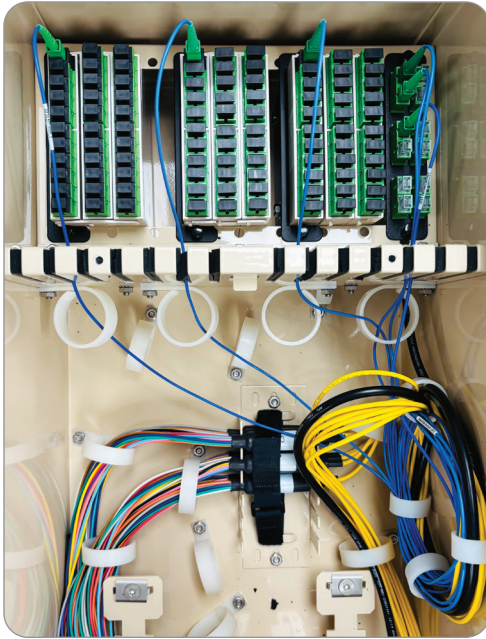

Figure 21
4. Route the remaining jumper slack through the fiber routing section of the EDE (Figures 21 and 22).